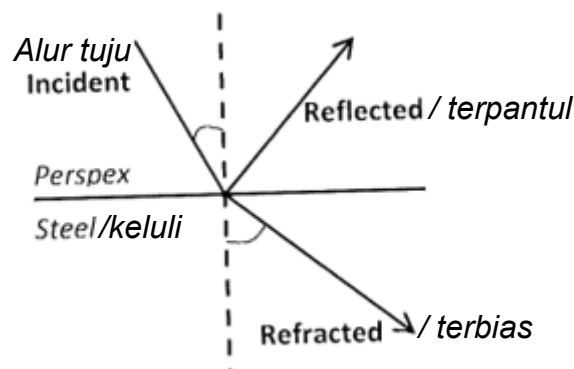

Figure 4 / Rajah 4
- (c). Critical angles calculations are used to design various probe angles for ultrasonic testing. Describe on the concept or law used to explain these critical angles. Calculate the angle of incidence required to produce a 45-degree shear wave refracted angle (Figure 4).